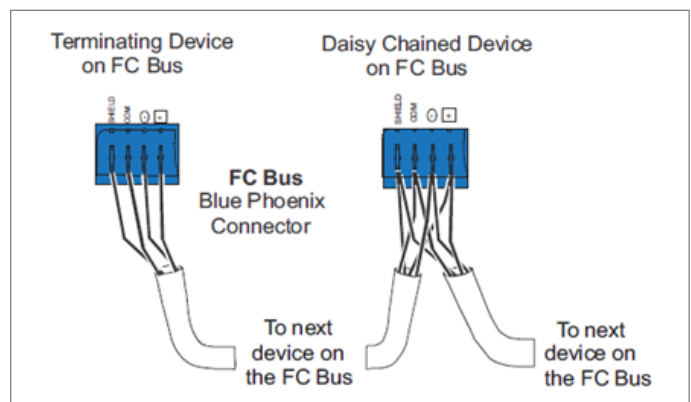

Figure 3: FC Bus Connections
The field controller (FC) Bus terminal block is a blue, removable, 4-terminal plug that is keyed to only fit in to the board-mounted, gray FC Bus jack. Wire the removable FC Bus terminal block plugs on the SE-ZEC Controller and other FC Bus controllers in a daisy-chain configuration using 3-wire twisted, shielded cable. (Figure 3)